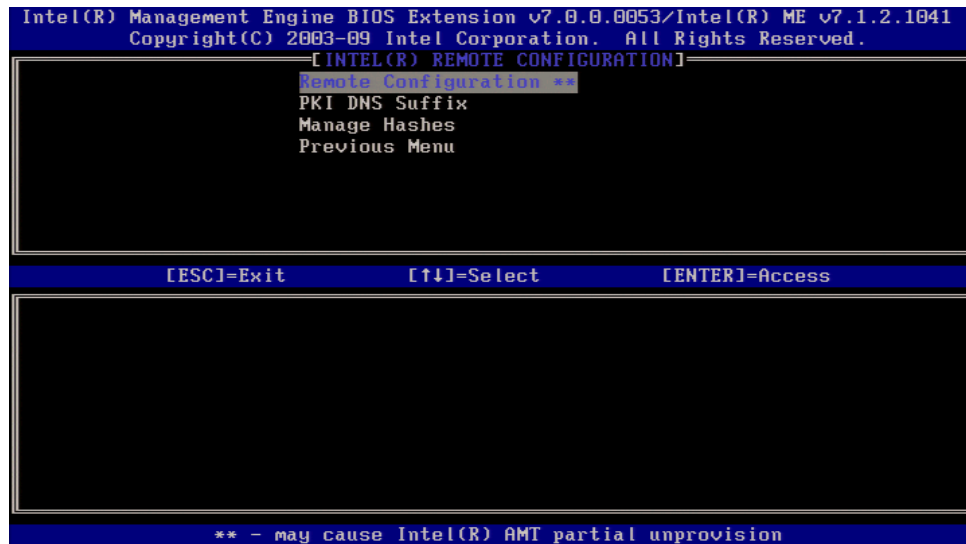

Figure 28. Intel Remote Configuration screen
4. Select the **TLS PKI** option. The Remote Configuration screen appears as shown in Figure 28.